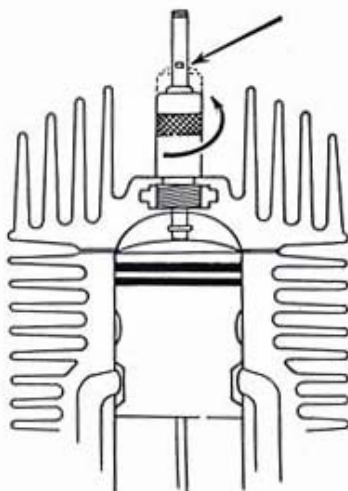

Fig. 3
3. Turn the timing tool until the top edge of the tool is aligned with the lower edge of the blue stripe (fig. 3).